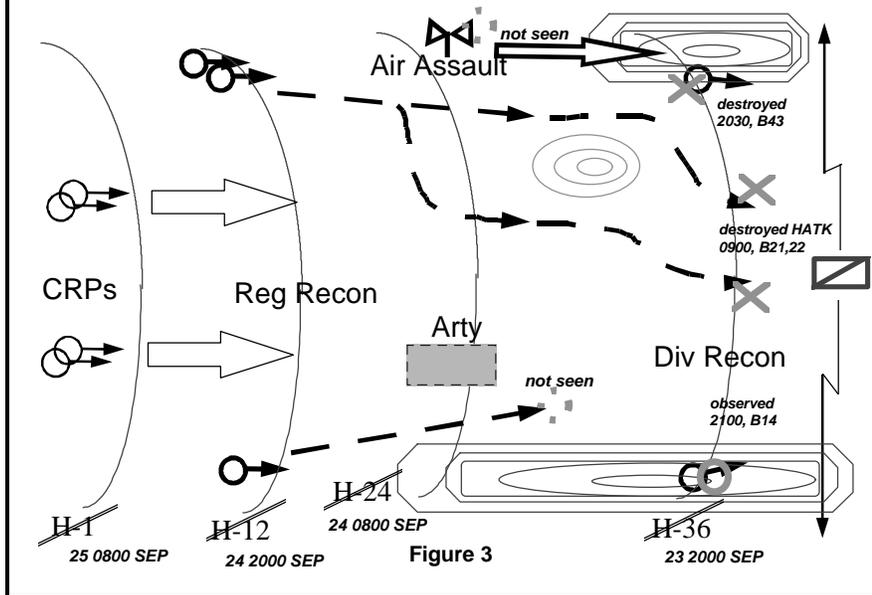

Figure 3
**Intelligence:** During the execution, keep score off of the "Threat Database." Use this to identify periods when contact can be expected and maximum vigilance is important. Using the "Threat Database" as a score card, the CP can have a pretty solid idea where the enemy forces are, and then focus the hunters to find them (see Figure 3). In a worst case, the counterrecon commander can use this matrix to template when an enemy element might have penetrated, and accordingly alert subsequent forces of the possibility of the "Threat" in their sector. For example, a "negative report" during a templated event time may indicate a successful enemy infiltration.